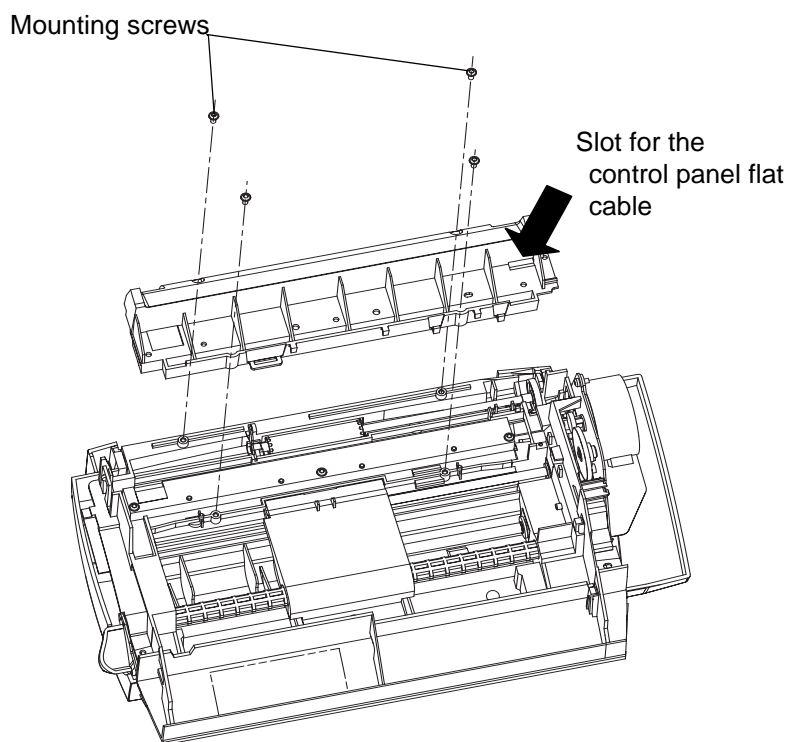

Figure 1.
- Attach the flat cable to the CIS support. Pass the control panel flat cable into the corresponding slot (see Figure 1).